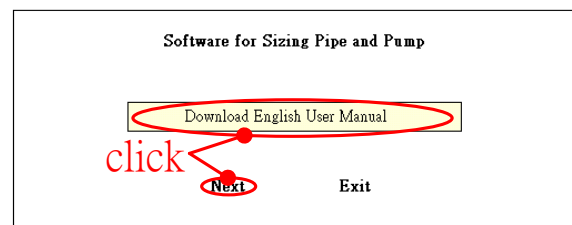

fig.7
- (1) Plug Key into USB port.
- (2) Double click shut-cut 「Pipe English」 on the Desk Top , and fig.7 will be shown on screen.